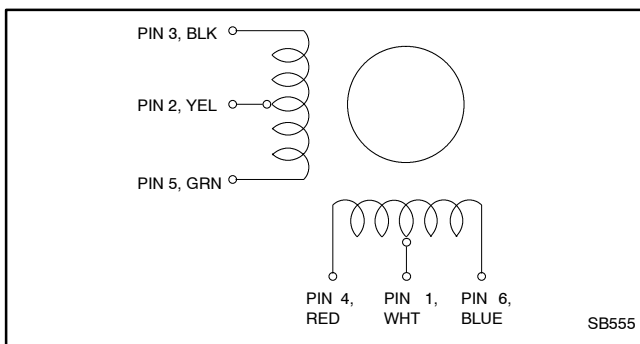

Figure 6-20 Actuator Coil Group
11. Check the stepper motor coil resistance across pins 2 and 3 and across pins 1 and 4. Only two stepper motor leads of each coil group are used (BLK-YEL and RED-WHT). See Figure 6-20. The resistance per phase is 38.5 ohms. If one of the coils has a significantly higher resistance or is shorted, replace the stepper motor.